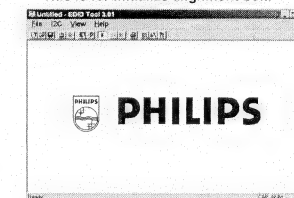

Fig. 6
4. Click **OK** button. The main menu appears (as shown in Fig. 6). This is for initialize alignment box.